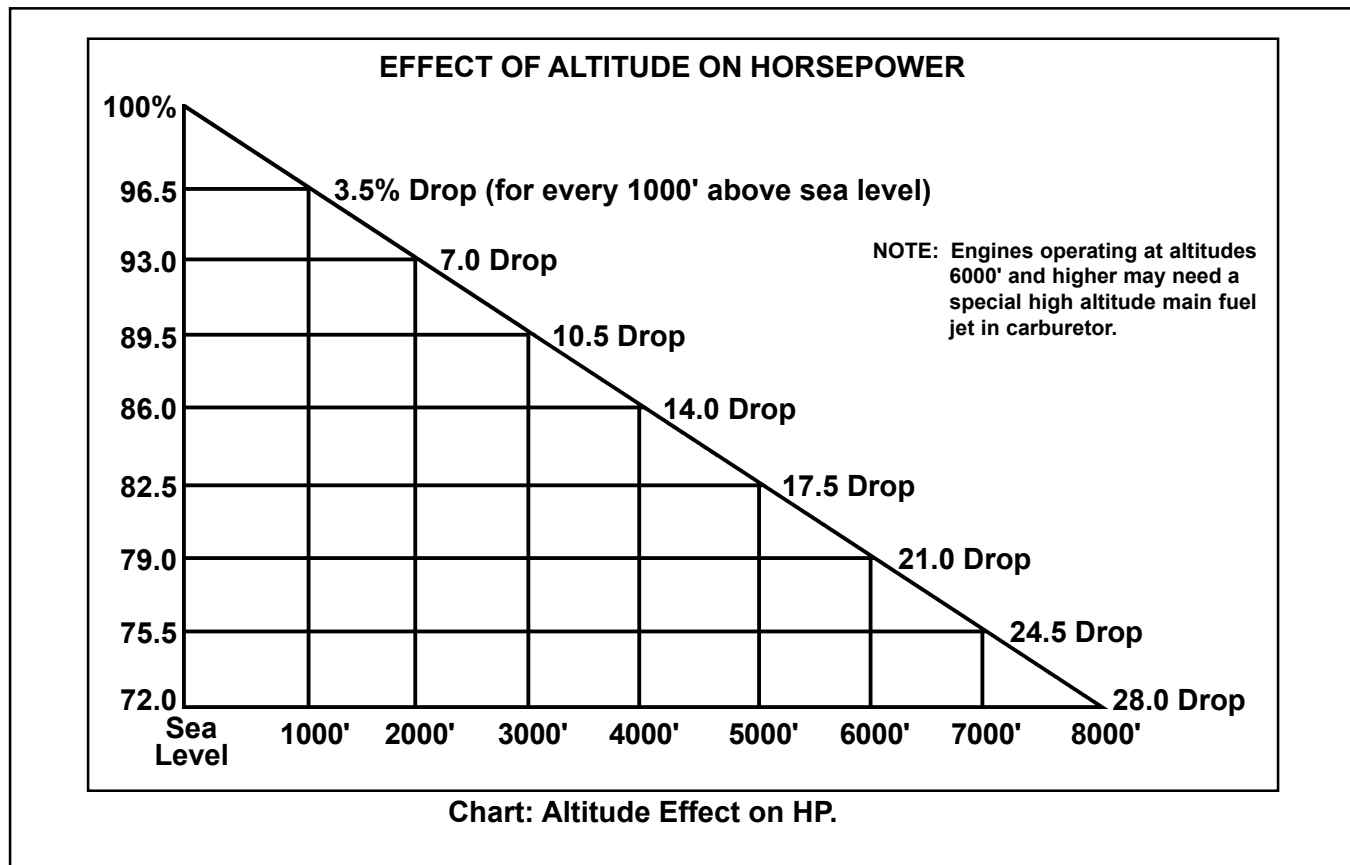

Figure 1.
32. In Figure 1, what percentage of horsepower is available to an engine operating at 4000 ft. above sea level?
34. A customer has designed a new machine and needs an engine. They estimate the power requirement will be 4 HP at 3600 RPM. The transmission will be a friction drive system (spur gears). It will be operated at an altitude of 2000 feet. Use Figures 1 and 2 to determine what percentage of horsepower loss should be figured in when choosing the right engine for this application?